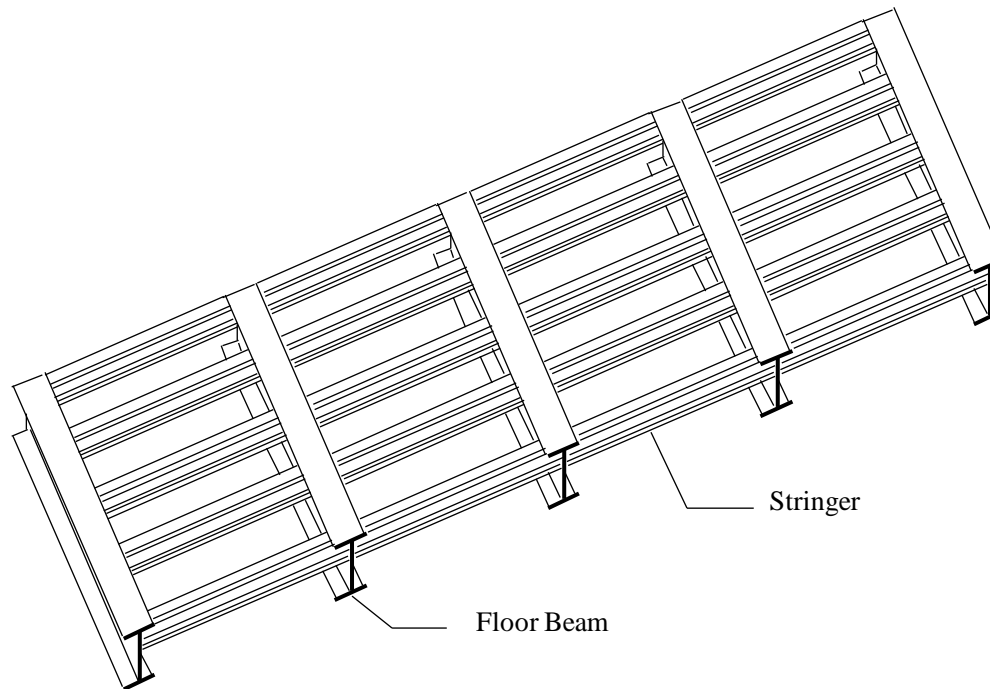

Figure 1. Typical Steel Deck Supporting Elements.
- Stringers and floor beams are also present for larger decks in addition to the slab (Figure 1).